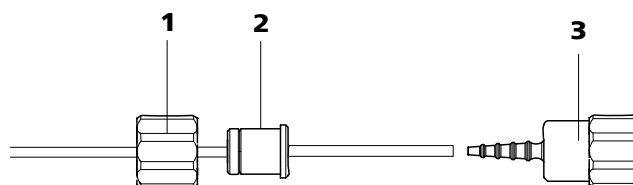

Figure 29 Install pump tubing connection without filter
- **Case B:** a 6.2744.160 pump tubing connection **without filter** (see figure 29, page 49).